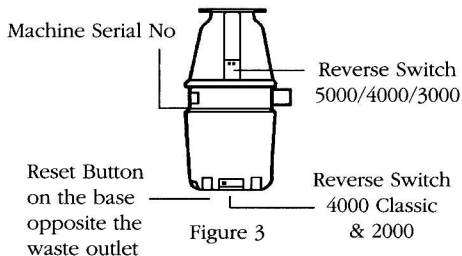

Figure 3
- 4.2) Set the switch on the front of the control of the unit to the 'ON' position (Fig.3) Please note that the switch is not used to activate the machine and is merely supplied as a means of reversing cutting rotation. Check the power and test the operation of the unit by following the instructions on page 3.